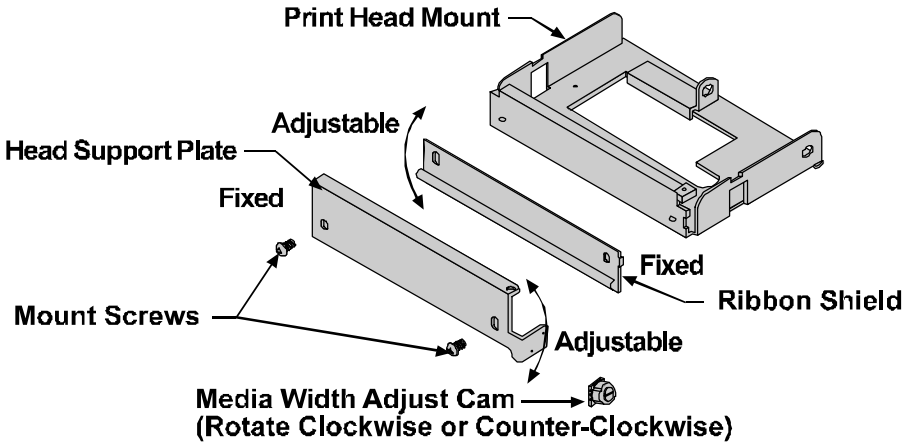

Figure 5-2 Printhead Mount Assembly
2. To adjust the Ribbon Shield (see Figure 5-2), temporarily move the ribbon and loosen the screw located on the left end of the Head-Support Plate, (do not remove the screw). This end of the shield can be adjusted up or down in order to even out the ribbon tension across the full width of the ribbon.